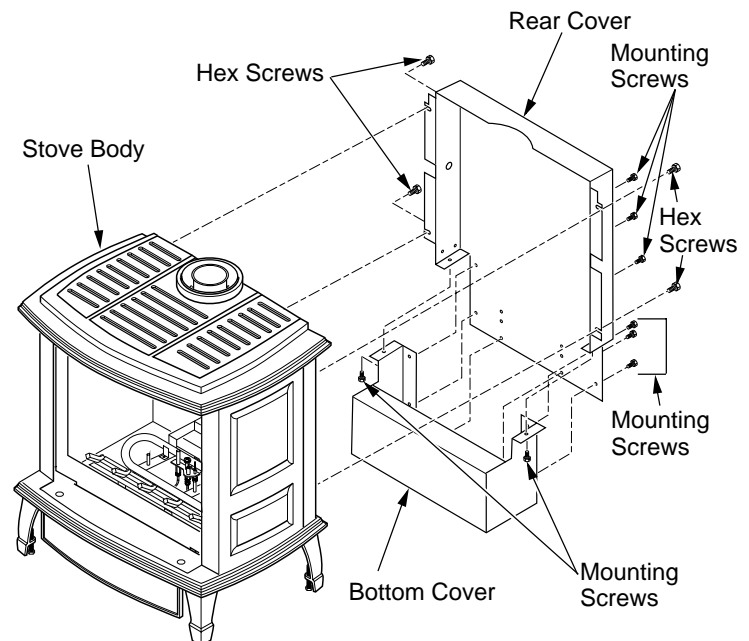

Figure 9 - Removing Rear Cover and Bottom Cover from Stove Body
1. Using an adjustable wrench or 10 mm socket, remove 4 hex screws securing rear cover to back of stove body (see Figure 9).
2. Separate bottom cover from rear cover by loosening the 8 mounting screws (see Figure 9).
14. Reattach bottom cover to rear cover with 8 screws (see Figure 9, page 6). Make sure that you don't pinch any wires during reassembly. Route power cord through plastic bushing in bottom of rear cover.